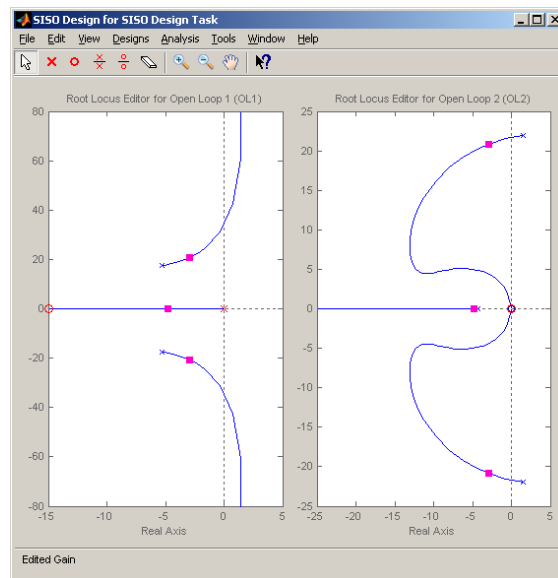

Figure 6: Root locus for PI-D controller
11. To design the PI part of the controller into $C_1(s)$, assume that $C_1(s) = \frac{0.15(s+15)}{s}$ and enter this into **C1**. If you have done this correctly, you should get the root locus plots in Figure 6.